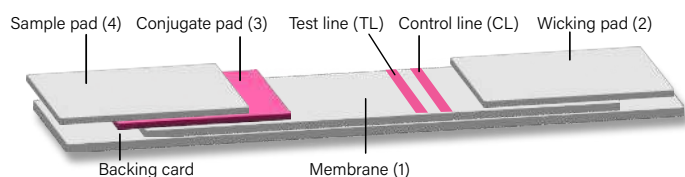

Figure 1 Lateral Flow Device Components
The LFT has multiple components that provide the correct environment for the assay to occur (Figure 1). The external cassette houses the supporting adhesive card with the attached sample pad (4), conjugate pad (3), membrane (1), and absorbent pad/wicking pad (2). The external cassette has the sample port and multiple windows to see the test line(s) and control line(s) which are printed on the membrane. To assemble the test:
2. The test line (TL) is created by coating a portion of nitrocellulose membrane with a substance that captures either the beads bound to the antigen/analyte or the beads that are not bound to the antigen/analyte. The different options are described below.
3. The control line (CL) is created by coating a portion of nitrocellulose membrane with an antibody that recognizes the bead or colloidal gold whether it is bound by antigen or not.
The constituents of a lateral flow test can be shown in Figure 1 (see above). Each component plays a key role in the overall final performance of your
The **membrane** (Figure 1, Part (1)) of the lateral flow test binds the designated proteins for both the TL and CL. Normally, the membrane is made up of primarily hydrophobic materials, such as nitrocellulose. Both the microspheres used as the solid phase supports and the antibodies are hydrophobic, and their interaction with the membrane allows them to be effectively dried onto the membrane. These hydrophobic interactions are reliable, so much so, that getting the hydrophobically bound antibody/microsphere complexes to enter the mobile phase upon sample introduction can be difficult. To circumvent this problem, the membrane should be blocked with proteins, surfactants, or polymers, so the pores of nitrocellulose are opened without trapping the microsphere complexes as the liquid flows from the sample pad to the wicking pad.
The **wicking pad** (Figure 1, Part (2)) should absorb the sample liquid containing excess microsphere complexes. The size of the wicking pad defines the maximum volume of sample needed for the assay since overloading the test with too much sample would cause back wash to the membrane reaction areas.
The **conjugate pad** (Figure 1, Part (3)) holds the dyed beads, fluorescent beads, or colloidal gold conjugated to the appropriate antibody. So, this is the area of the test where the analyte/antigen from the sample binds to the microspheres. The pad consists of glass fibers, polyesters, or rayons, which means there are some key parameters that must be optimized for each type of sample and the antigen/analyte that is being tested. These include:
The **sample pad** (Figure 1, Part (4)) absorbs the actual sample and conditions it for the assay, which can include filtering impurities, adjusting buffer compositions such as pH, and establishing the initial flow rate. This region also mixes the sample with any additional surfactants, detergents, or blocking agents. The pad may also have additional agents to increase the reaction between the analyte/antigen with the antibody on the microspheres.